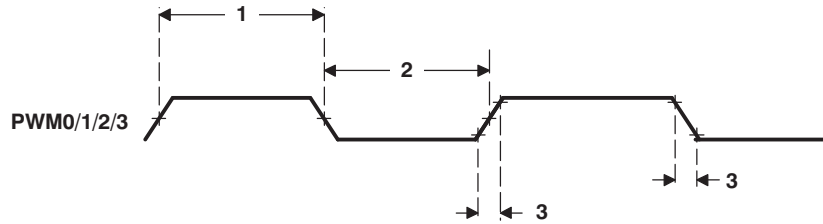
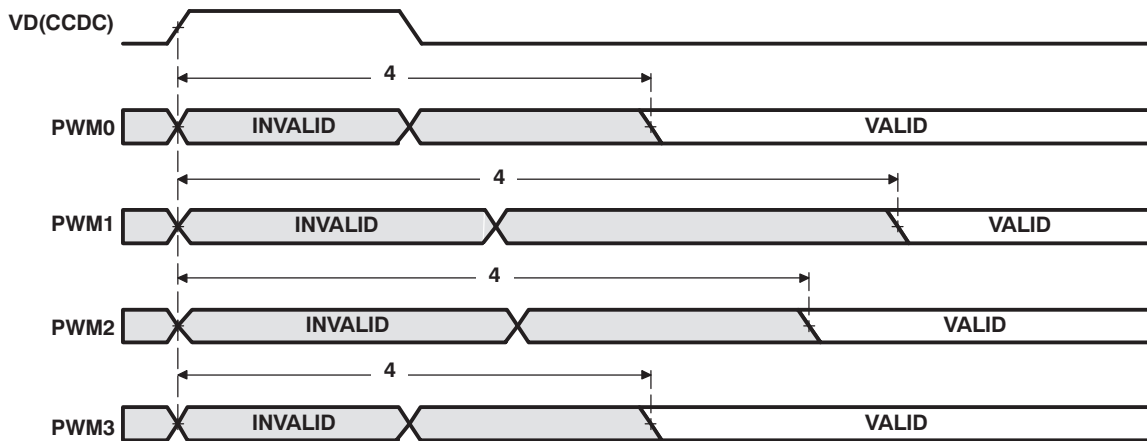

Figure 6-55. PWM Output Timing
Figure 6-56. PWM Output Delay Timing
**Table 6-85. Switching Characteristics Over Recommended Operating Conditions for PWM0/1/2/3 Outputs(1) (see Figure 6-55 and Figure 6-56)**